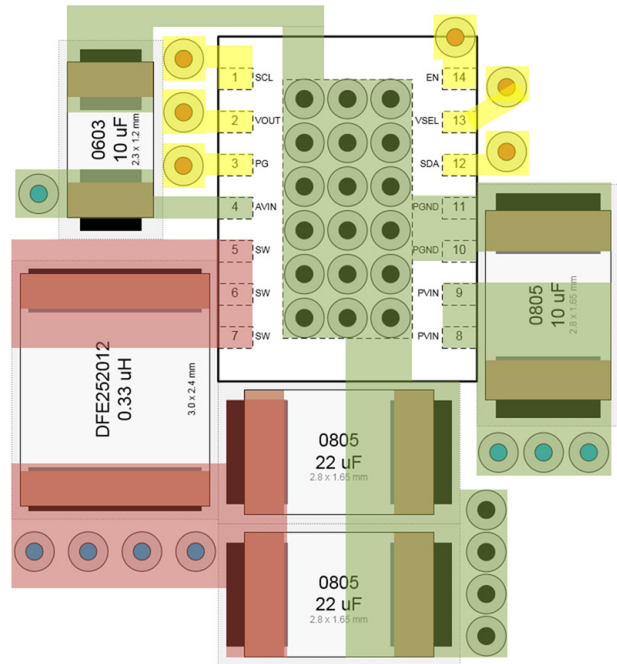

Figure 55. Placement Recommendation
- SW connected to the Lout inductor with local mini planes used on the top layer (green) and the layer just below the top layer (yellow) with laser vias (See Figure 55 / 56 for example)